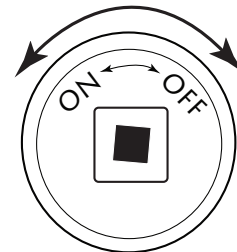

Fig. 8. Key Valve Face
1. Insert key into shut-off valve and secure into square end (see figs 8 & 9).